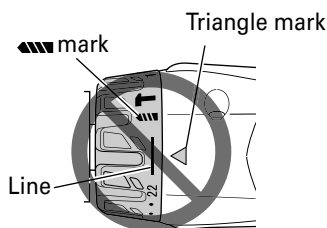

Fig. 10
- (1) When using this unit as a screwdriver, line up the one of the numbers "1, 3, 5 ... 22" on the clutch dial, or the black dot, with the triangle mark on the outer body.
- (2) When using this unit as a drill, line up the clutch dial drill mark "▨" with the triangle mark on the outer body.
- (3) When using this unit as a hammer drill, align the clutch dial hammer mark "⬆" with the triangle mark on the outer body.
- Do not use with the clutch dial set at the line between the number "22" and the drill mark "▨". Doing so may cause damage (See Fig. 10).